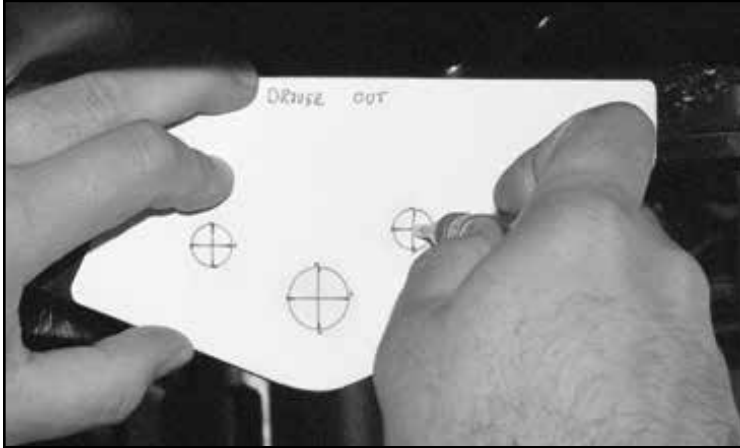

FIGURE 30 - STEP 38
38. Line up the drill template with the factory Radius arm bracket and mark the two holes around the radius arm pivot bolt. **SEE FIGURE 30**